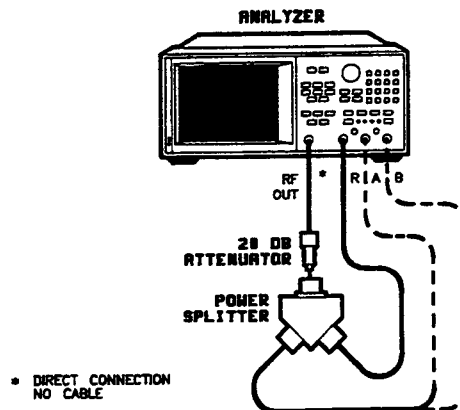
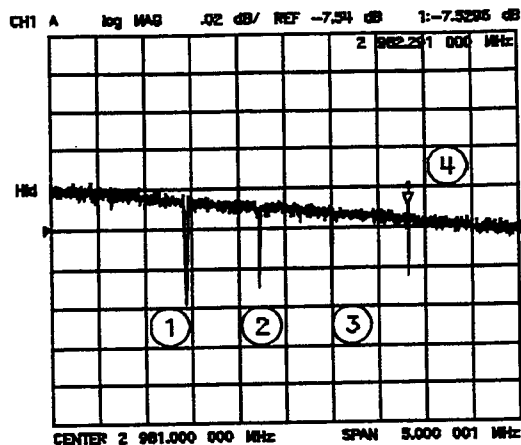

Figure 24. IF Amplifier Correction Constant Setup
Figure 27. Target Spur is Fourth from Left in Typical Display of Four Spurs without Filter
2. At the prompt, connect the attenuator, power splitter and RF cables to inputs R and A as shown in Figure 24. Press **[CONTINUE]**.
3. At the prompt, connect the attenuator, power splitter and RF cables to inputs R and B as shown in Figure 24. Press **[CONTINUE]**.
4. Press **[NEXT]** repeatedly. Watch the trace on each sweep and try to spot the target spur. With the filter, the target spur will be one of two obvious spurs (see Figure 24). Without the filter (not recommended), it will be one of four or five less distinct spurs as shown in Figures 27, 28, and 29. When the center frequency increases to 2994.999 MHz, "Cav Osc Cor FAIL" will appear on the display.
Without the filter, the target spur usually appears as one of a group of **four evenly spaced** spurs, as in Figure 27. The target spur is the right-most spur (fourth from the left). On any particular sweep one, any or all of the spurs may be large, small, visible, invisible, above or below the reference line.